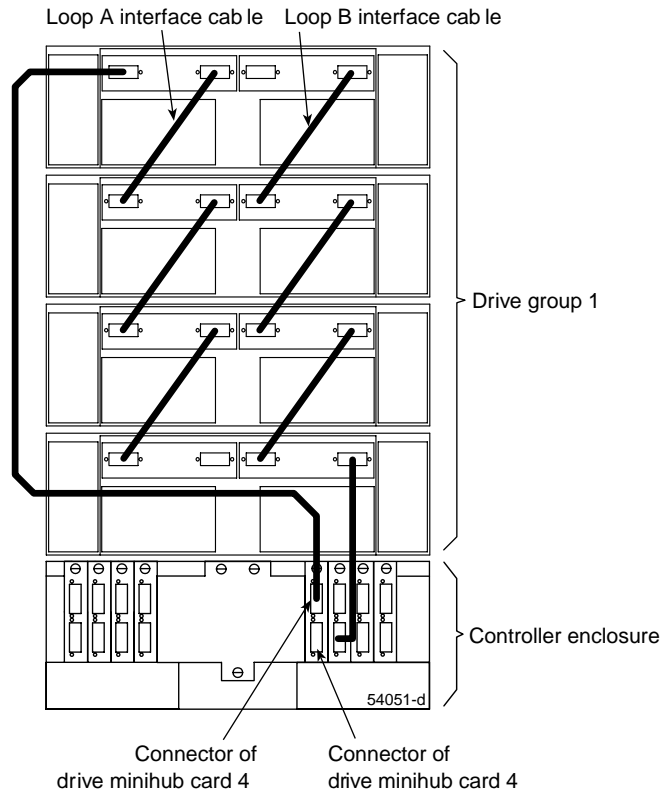

Figure 8-4 Cabling Redundant Drive Loops to the Controller
1. Connect drive loop A to the controller enclosure (see Figure 8-4).
2. Connect drive loop B to the controller enclosure (see Figure 8-4).